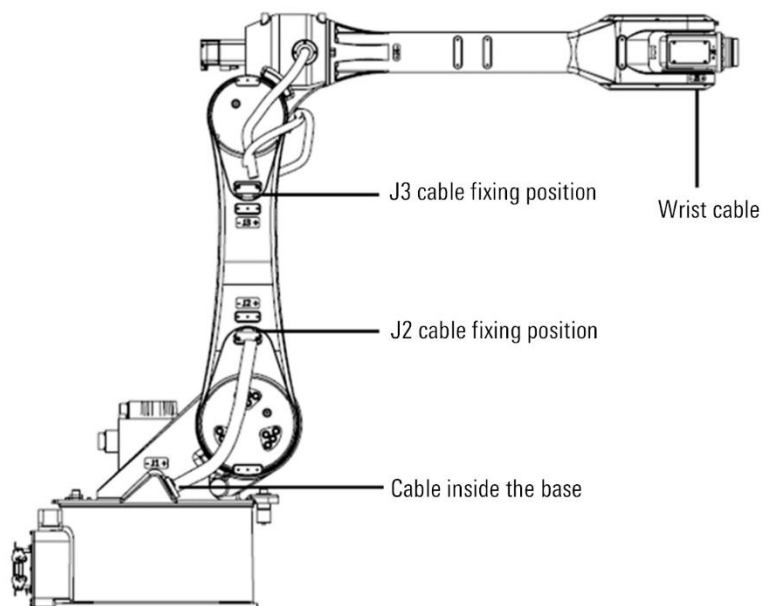

Figure 12-1 Manipulator cable layout diagram
In order to ensure that the robot can operate for a long time, every 1920 hours or 6 months (whichever is shorter), the manipulator cable should be checked. The cable layout is shown in Figure 12-1.
- Step8. Install the cable into the base and keep the "U" shape in Figure 12-1.